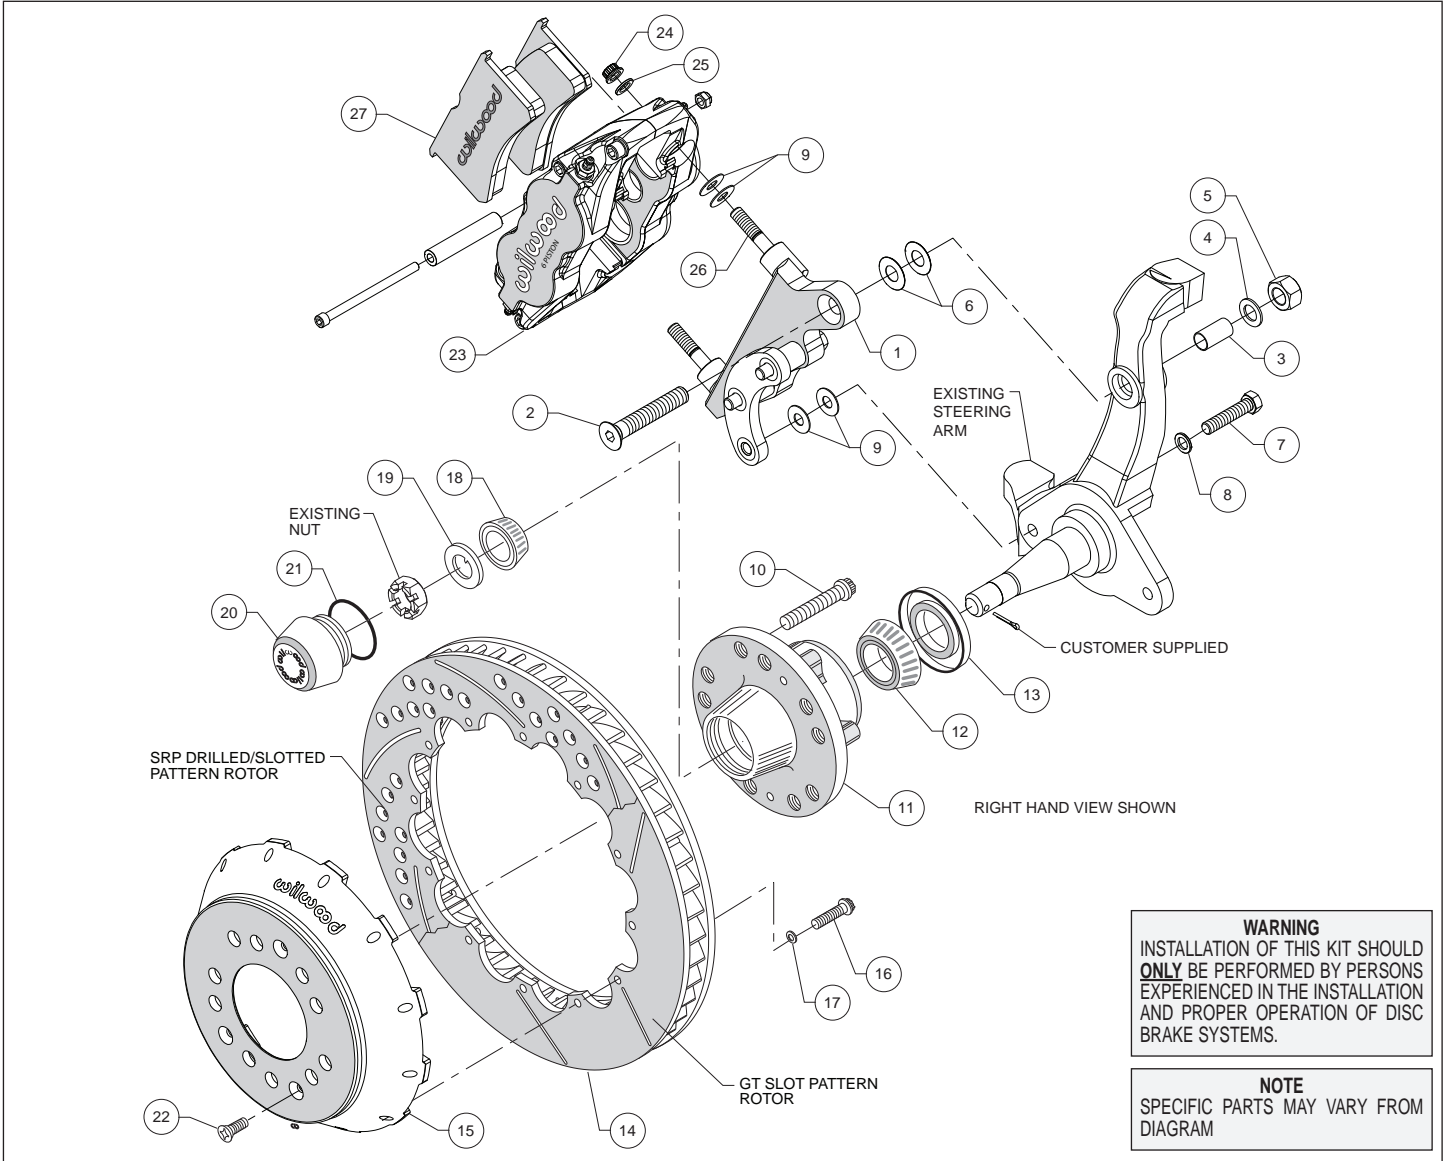
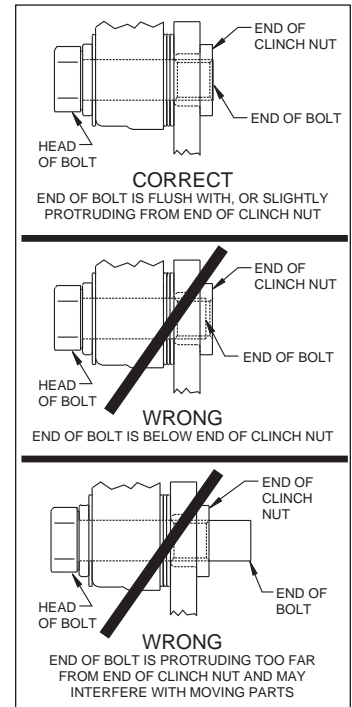

Figure 1. Typical Installation Configuration
Figure 4. Clinch Nut Engagement Diagram
Assembly Instructions (numbers in parenthesis refer to the parts list and Figure 1 on the preceding pages): **CAUTION:** All mounting bolts must fully engage clinch nuts. Be sure to check that all bolts are either flush or protruding through flanged side of clinch nut after shimming, Figure 4.
- The caliper bracket (1) should initially be installed with clean, dry threads on the mounting bolts. The bracket has been assembled at the factory for alignment purposes. Loosen the two bolts that secure the brackets together so that the bolts are hand tight only. This will enable the bracket assembly to be adjusted to accommodate various spindle tolerances during assembly. Insert sleeve (3) into top mounting hole on the spindle, Figure 1. Orient the bracket as shown in Figure 1 and install using bolt (2), washer (4), and nut (5), in the upper hole, as shown in Figure 1 and Photo 1. Initially use two .032" thick shims (6) on the upper bolt between the bracket and spindle, Figure 1. Install bolt (7) and washer (8) in the lower hole, Figure 1. Initially use two .035" thick shims (9) between the bracket and spindle face. Temporarily tighten the mounting bolts, followed by the two bracket-to-bracket bolts. **NOTE:** The bracket must fit squarely against the mounting points on the spindle. Inspect for interference from casting irregularities, machining ridges, burrs, etc. Later, after the bracket and caliper alignment has been checked, the bolts will be secured using red *Loctite*® 271.
- Check that the bracket (1) is aligned parallel to the rotor (14), Photo 2, by assembling and installing the hub, hat, and rotor per the steps below. If not, parallel adjust by adding or subtracting shims (9) on the lower bolt between the spindle and bracket, Figure 1.
- Install wheel studs (10) into the hub (11), Photo 3. Torque to 77 ft-lb. **NOTE:** There are two five lug patterns in the hub (5 x 4.50 and 5 x 4.75). Ensure the correct hub stud pattern is being used to fit the wheel application.
- Pack the large inner bearing cone (12) with high temperature disc brake bearing grease (available from your local auto parts store) and install into the backside of the hub (11), Photo 4.
- Install the grease seal (13) by pressing into the backside of the hub (11), flush with the end of the hub, Photo 4.
- Orient the rotor (14) and the hat (15) as shown in Figure 1 and Photo 5. Attach rotor to hat using bolts (16) and washers (17). Using an alternating sequence, apply red *Loctite*® 271 to the
- Pack the small outer bearing cone (18) with high temperature disc brake bearing grease and install into hub (11). Slide the hub assembly onto the spindle. Secure using spindle washer (19) and OEM spindle nut, Photo 6. Adjust bearings per OEM specifications. Install saved OEM nut lock (if any) and a new cotter pin (not included).
- Screw dust cap (20) into hub (11), Photo 7. Friction created by the o-ring (21) on the dust cap keeps it from unscrewing. **NOTE:** *The O.D. of the existing OEM spindle washer may be larger than the I.D. of the dust cap not allowing it to seat against the hub face. Therefore, use the spindle washer (19) supplied with the kit instead of the OEM washer.*
- Slide the hat/rotor assembly (14/15) onto the hub (11) taking care to align the small countersunk holes in the hat with the small threaded holes in the hub. **NOTE:** *The hat must fit flush against the hub face or excessive rotor run out may result.* Install three flat head screws (22) through the small holes in the hat, Photo 7, and torque to 85 **in-lb**.
- NOTE:** *This kit contains distinct right and left hand calipers that must be mounted in a specific direction, as described below.* Lubricate the caliper mounting studs (26) with lightweight oil. Initially place two .035" thick shims (9) on each stud between the caliper and the bracket, as shown in Figure 1 and Photo 8. Mount the caliper (23) onto the bracket (1) using lock nuts (24) and washers (25), Figure 1. Ensure that the caliper is mounted so the largest pistons are at the rotor exit end of the caliper, in relation to the direction of rotor rotation. Temporarily tighten the lock nuts and view the rotor through the top opening of the caliper. The rotor should be centered in the caliper, Photo 9. If not, adjust by adding or subtracting shims (6 upper bolt, and 9 lower bolt) between the spindle and the caliper bracket. Always add or subtract the same amount of shims on each of the two mounting bolts to keep the bracket parallel to the rotor. **NOTE:** *The end of the lower bolt must be flush with, or slightly protruding from, the head of the clinch nut, as shown in Figure 4.* If necessary place spare shims between washer (8) and spindle to achieve the proper clinch nut engagement.